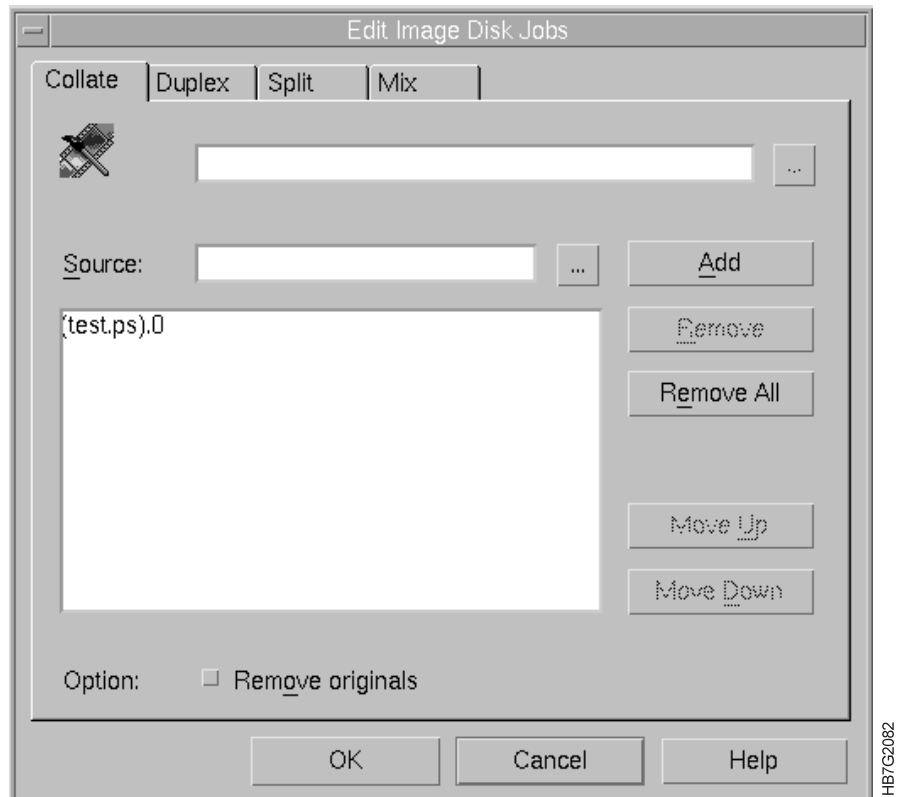

Figure 121. Collate Tab in Edit Image Disk Jobs Window
- 5 Click on the **Collate** tab in the **Edit Image Disk Jobs** window, as shown in Figure 121.